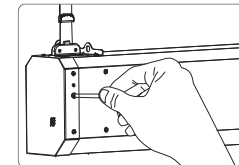

Figure 25
- b. Lower limitation adjusting. Take off the knob from the hole and use the provided allen key to adjust (figure 25).